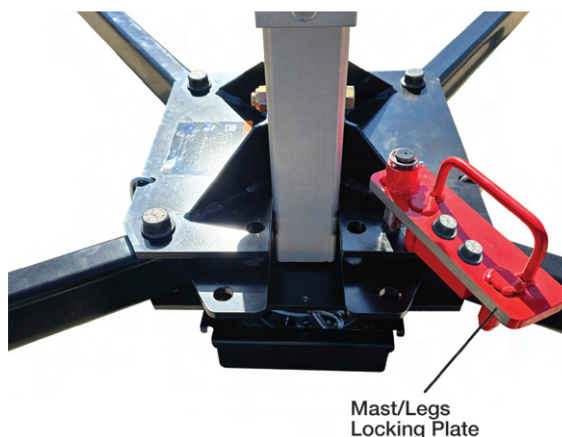

Figure 7-34: Mast/Legs Locking Plate Open
5. Lift and swing open the red mast/legs locking plate (see Figure 7-34). This will open the end of the square tube/mast slot.